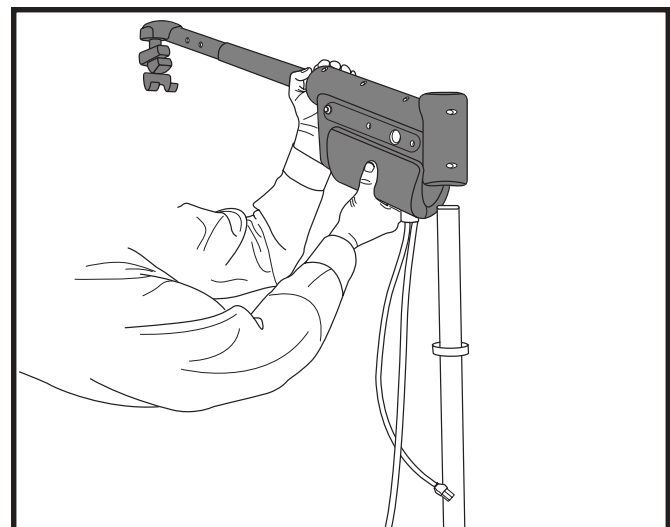
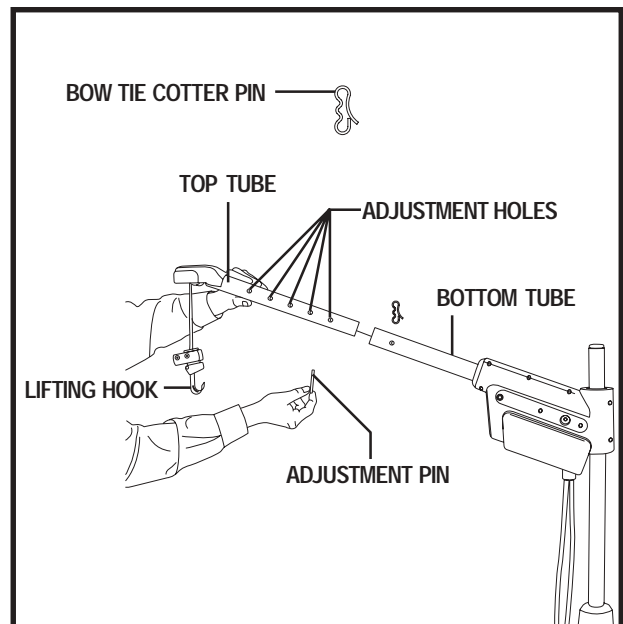

Figure 6. Motor Housing Installation
Figure 8. Boom-arm Adjustment
3. Lower the motor housing over the upper post until it rests on the height adjustment ring. **See figure 6.**
You may need to adjust the height of the motor housing (see figures 6 and 7) or the length of the boom-arm (see figure 8) so the boom-arm can swing freely without hitting at any point inside the vehicle.
Before adjusting the boom-arm, lower the lifting hook about 12 in. (30.5 cm). This will provide enough slack in the strap to enable the adjustable portion of the boom-arm (top tube) to be pulled out of the bottom tube to its farthest adjustment hole. **See figure 8.**